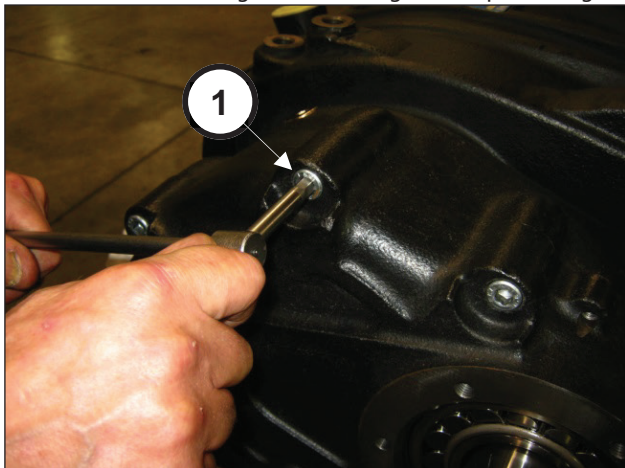

Fig. 6
Unscrew the reduction gear cover fixing screws (pos. ①, Fig. 6).